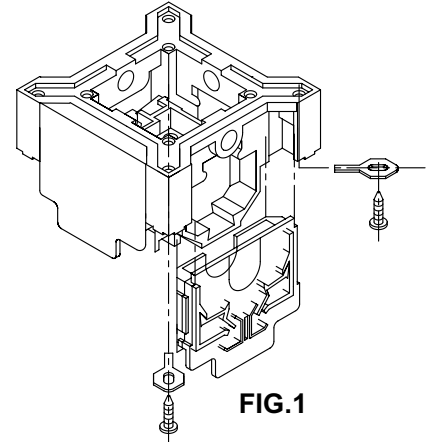

FIG. 1
Cam-operated contacts on the VCSO are field replaceable and can be removed by loosening the (2) screws holding the (2) clamps and sliding the contact block out of its channel see **FIG. 1**. If contacts are to be cleaned, it is recommended that a low residue spray contact cleaner be used. Never file or sand the contacts tips.